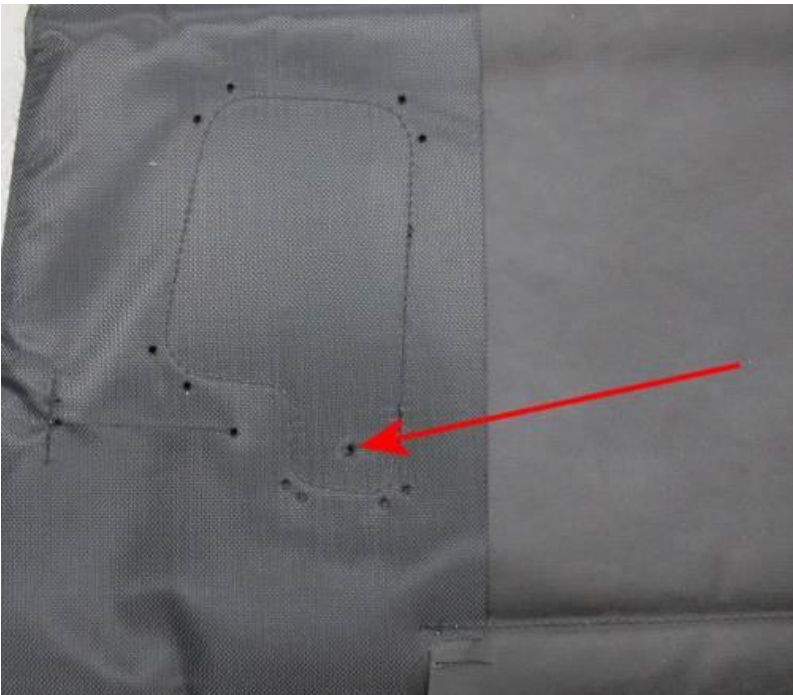

Figure 4
- Figure 4 shows the hole/location that must be used to secure the strap to the insulation pad